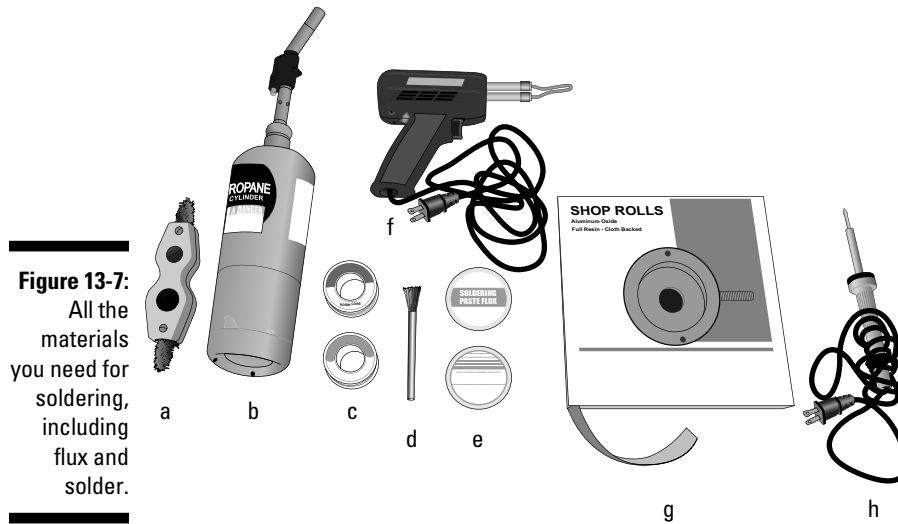

Figure 13-7:
- ✔ **You must use the correct solder.** When you're buying solder (at the hardware or home improvement store), read the labels carefully to make sure you're getting a solder that will properly join the metals you intend to solder. Most solders are alloys of lead and tin and come in small rolls. The most common general-purpose solder is 50/50, which indicates that the solder is made of 50 percent lead and 50 percent tin. 50/50 solder melts at 470 degrees Fahrenheit. A range of solder is available for soldering different materials. You can see an example of solder in Figure 13-7.
- ✔ **You must use the correct flux.** Rust and other impurities form on the surfaces of metals when they're exposed to air. Flux removes these oxides during the soldering process, which helps to improve the quality of your soldered joints, and also allows the solder to adhere and flow more freely. Fluxes come in liquid, paste, and powder form. You can buy corrosive or noncorrosive flux. The former is more effective, but you have to wipe it away with flux remover (available where you buy your soldering supplies) after soldering. Check out Figure 13-7 to see some of the materials you may need for soldering, including a copper pipe wire brush cleaning tool for soft soldering (a), a propane soldering torch (b), rosin core and lead-free solder (c), a flux brush (d), soldering paste flux (e), electric soldering gun (f), shop rolls for sanding (g), and an electric pencil soldering iron (h).